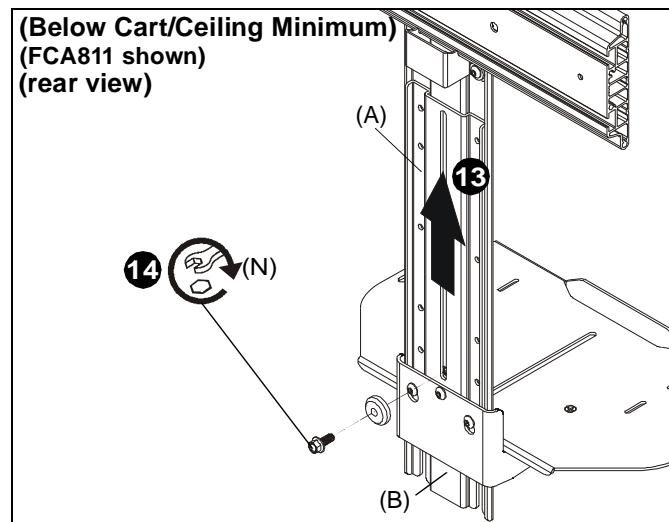

Figure 13
13. (For minimum extension) Slide upright bracket behind main bracket. (See Figure 13)
14. (For minimum extension) Use 1/4-20 x 5/8" hex head flange bolt (N) and center washer (F) to secure upright bracket (A) to main bracket (B). (See Figure 13)